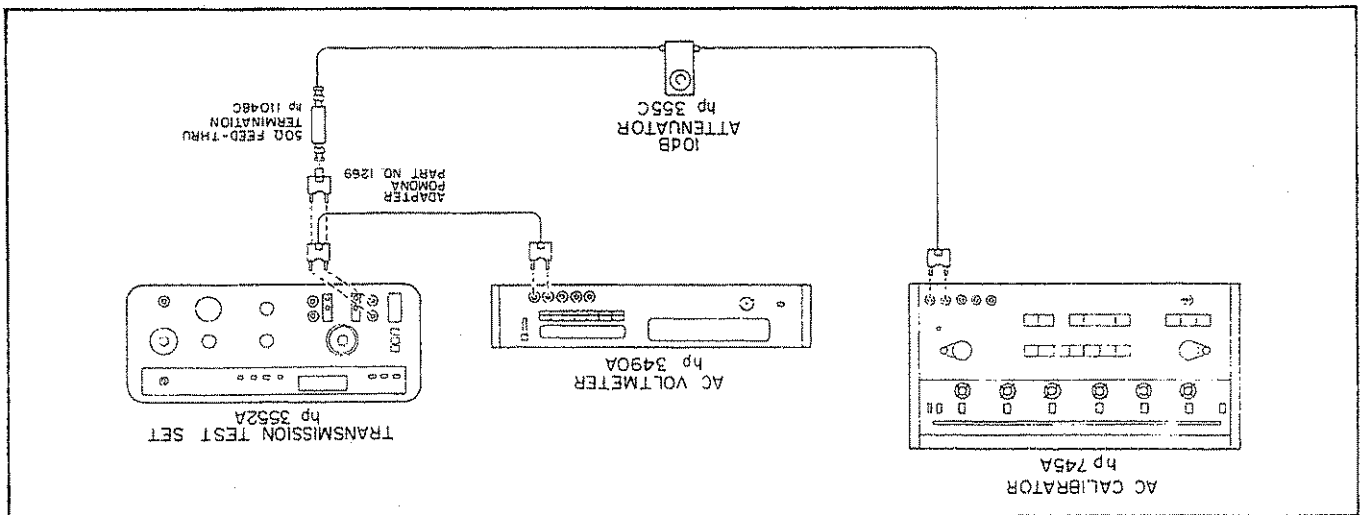

Figure 5-1. Receiver Low Level Accuracy Test.
h. Connect a 10 dB 50 ohm attenuator (Model 355C set to -10), a 50 ohm feed-thru termination (Model 11048C), and an ac voltmeter (Model 3490A) to the ac calibrator and the Test Set as shown in Figure 5-1. The ac voltmeter accuracy must be $\pm 0.12\%$ of reading + 0.035% of range) or better at 1 kHz.